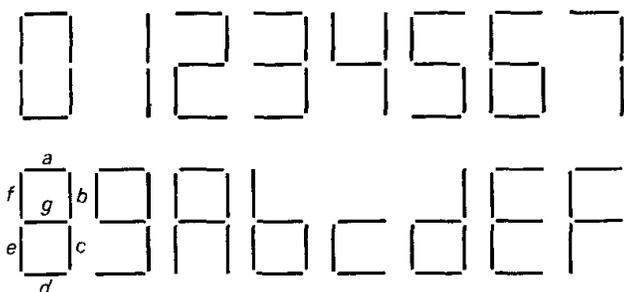

Figure 8.76. 7-segment display codes.
The inputs are the individual segment signals, which are always labeled *a–g*; see Figure 8.76, which also shows how the digits A–F are represented with 7-segment displays. Note that it is possible to represent 9 and C in two ways, both of which should be correctly recognized by our logic. For the PAL, we choose a 16L8,
Figure 8.77 is the input to CUPL. We assigned the (positive-true) segment drive signals *a–g* as inputs, and the (**negative-true**) hexadecimal bits *DO–D3* as outputs. CUPL lets you define intermediate variables that can be used in later expressions; in this case it is convenient to define the obvious variables zero through *hexf*, the possible displayed digits in terms of the segment inputs. These are simply large product (AND) terms of the input segment variables, which you can read from the digit shapes in Figure 8.76. Finally, each binary output bit is written as the sum (OR) of the digit variables in which that bit is set. We've used negative-true levels because the 16L8 is an AND-NOR array, thus minimizing logic. This completes the logic specification to CUPL.